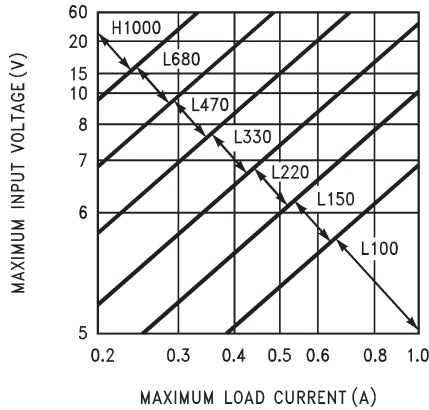
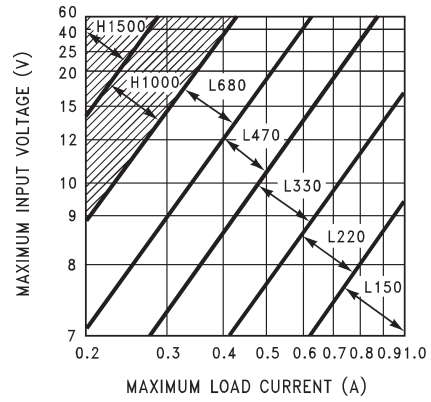
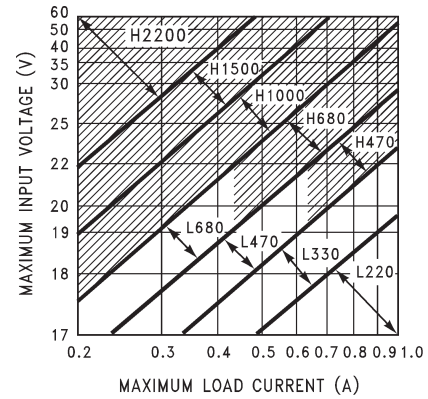

Figure 15. TL2575-33
Figure 16. TL2575-50
Figure 18. TL2575-15
1. Inductor Selection (L1) A. From Figure 15 through Figure 18 , select the appropriate inductor code based on the intersection of $V_{IN(Max)}$ and $I_{LOAD(Max)}$. B. From Table 2 , choose the appropriate inductor based on the inductor code. Parts from three well-known inductor manufacturers are given. The inductor chosen should be rated for operation at 52-kHz and have a current rating of at least $1.15 \times I_{LOAD(Max)}$ to allow for the ripple current. The actual peak current in L1 (in normal operation) can be calculated as follows: $I_{L1(pk)} = I_{LOAD(Max)} + (V_{IN} - V_{OUT}) \times t_{on} / 2L1$ Where $t_{on} = V_{OUT} / V_{IN} \times (1/f_{osc})$	1. Inductor Selection (L1) A. From Figure 16 (TL2575-05), the intersection of 20-V line and 1-A line gives an inductor code of L330. B. L330 \rightarrow L1 = 330 μ H Choose from: 34042 (Schott) PE-52627 (Pulse Engineering) RL1952 (Renco)